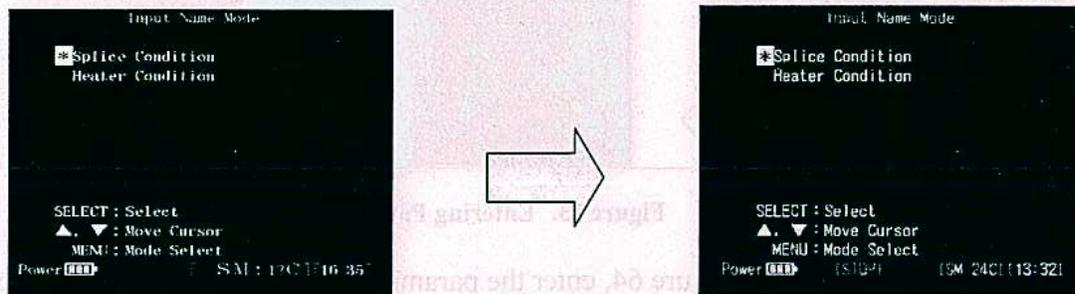

Figure 61. Fiber Name Mode
2. Referring to Figure 61, select the fiber type and count for which you would like to change the fusion program name.